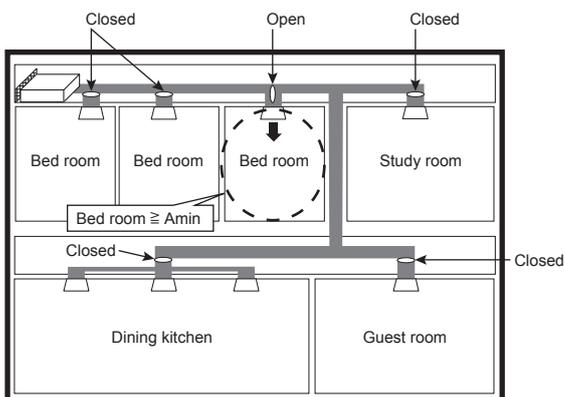

Fig. 2-2
- The area of each room must be A_{min} or larger. (See Fig. 2-2)